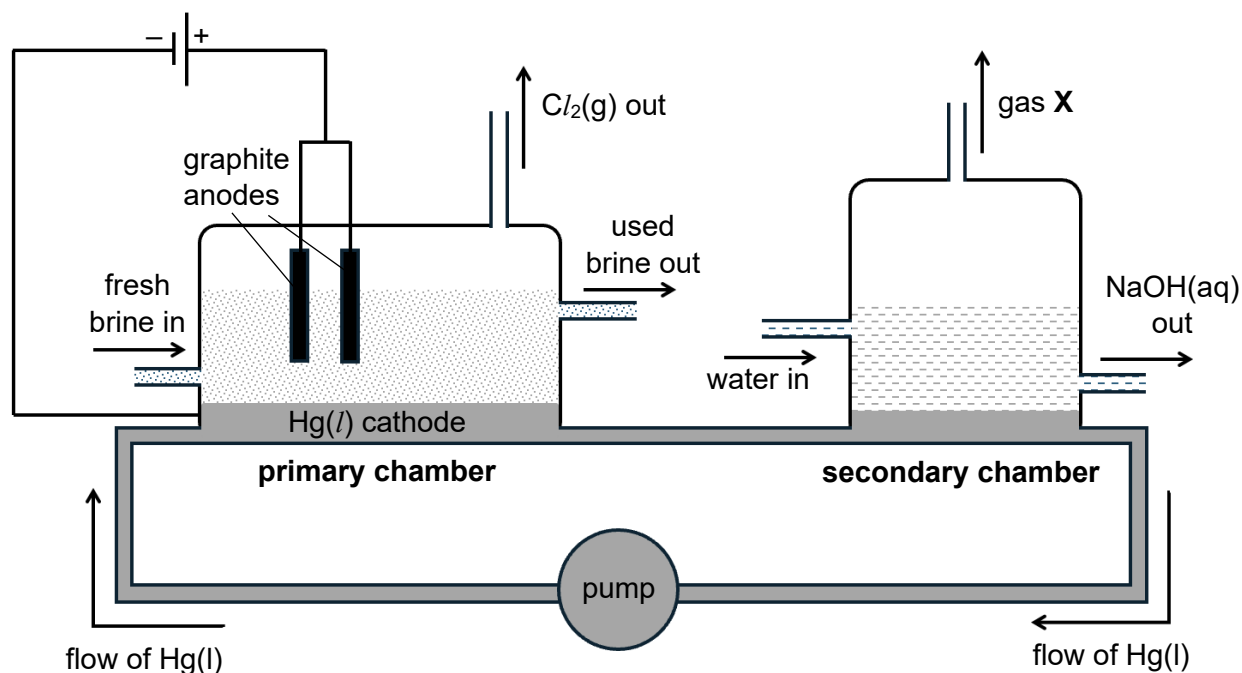

Fig. 4.1
- 4 The mercury cell electrolysis process shown in Fig. 4.1 is an industrial method used primarily to produce $\text{Cl}_2(\text{g})$ and $\text{NaOH}(\text{aq})$ from brine, a concentrated solution of $\text{NaCl}(\text{aq})$. A pump circulates mercury liquid, $\text{Hg}(\text{l})$, between the primary and secondary chambers where different reactions take place.